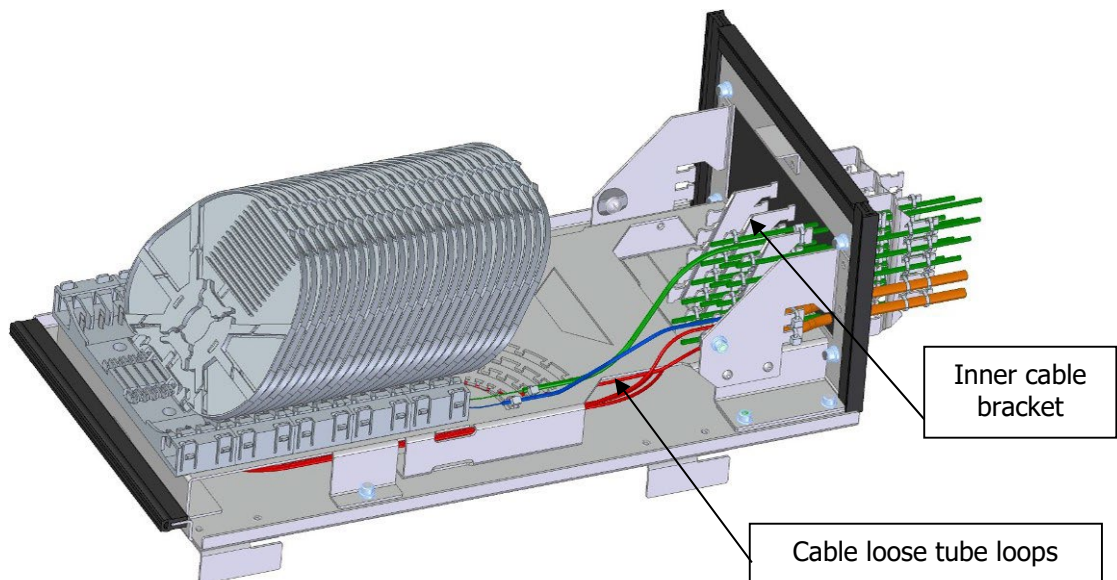
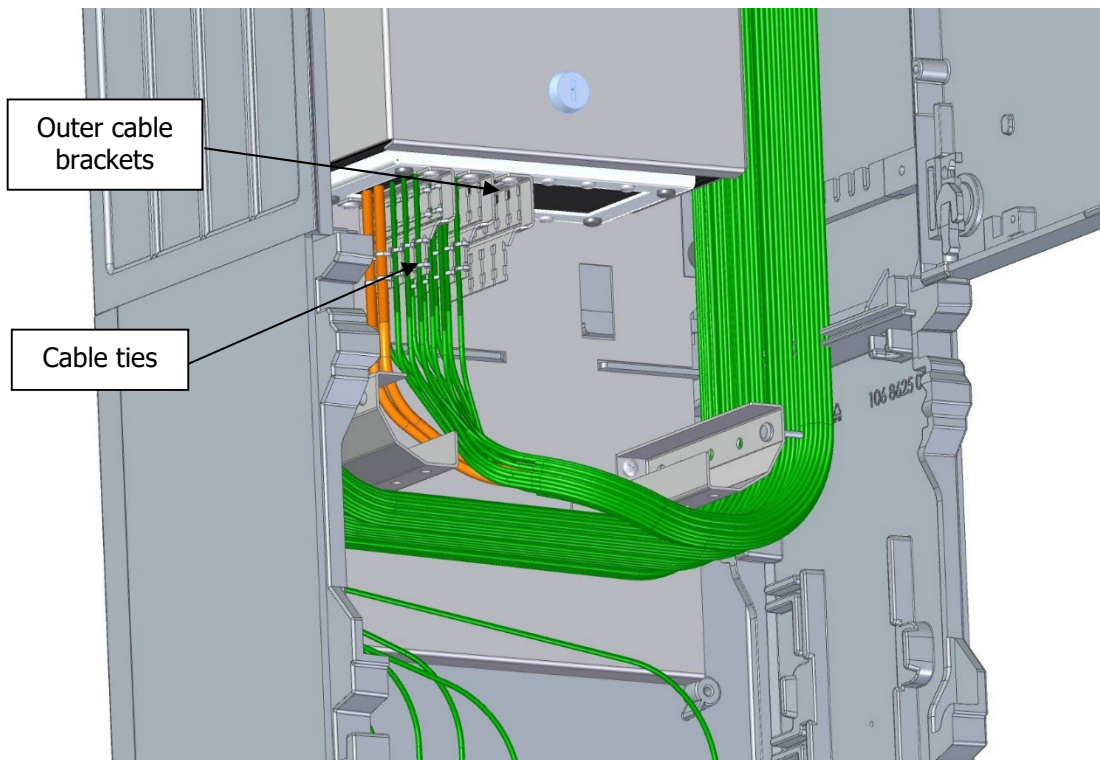

Fig.6. Splice Box view without lid
Fig.7. View of the bottom of the Splice Box inside HF-MSS-3/12
9. The splice box is equipped with 3 outer cable brackets and 3 inner cable brackets. Each cable bracket accepts 11 cables fixed with cable ties. Before the cables are installed remove two outer and two inner cable brackets leaving only the ones closest to the left side of the splice box. After the first group of 11 cables are put to the splice box and fixed with two cable ties to the outer cable bracket and with one cable tie to the inner cable bracket screw the second cable bracket on the right side to put the next 11 cables to the splice box and the same with the third cable bracket, see Fig.6. and Fig.7.